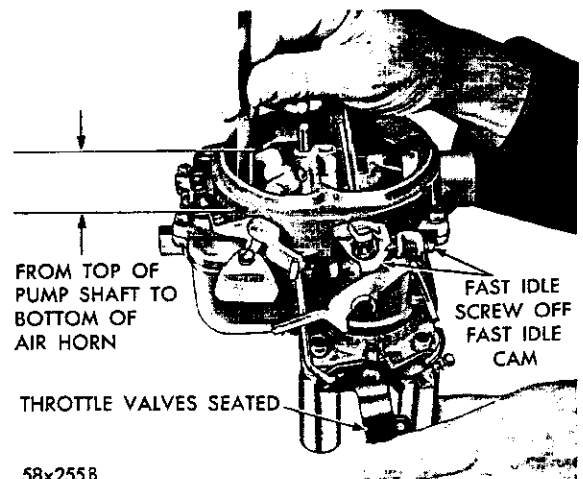

Fig. 16—Measuring the Accelerator Pump Travel
(2) Close the throttle valves tightly. Measure the distance between the top of the air horn and the end of plunger shaft, as shown in Figure 16. This measurement should be $1'' +$ or $- \frac{1}{64}$ inch.
(3) To adjust pump travel, bend the pump connector rod, using Tool T109-213, at the lower angle of rod, until correct travel has been obtained.